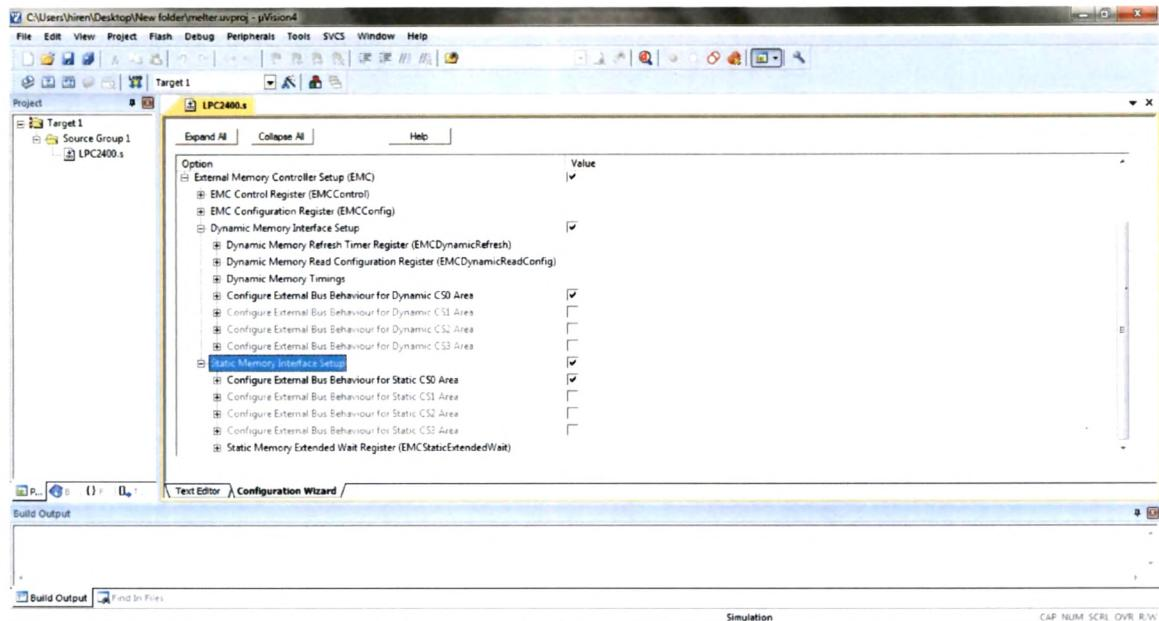

Figure A-4 Configuration wizard
6. In Project window double click on LPC2400.S and configure external dynamic & static memory interface by entering into Configuration Wizard as shown in Figure A-4.